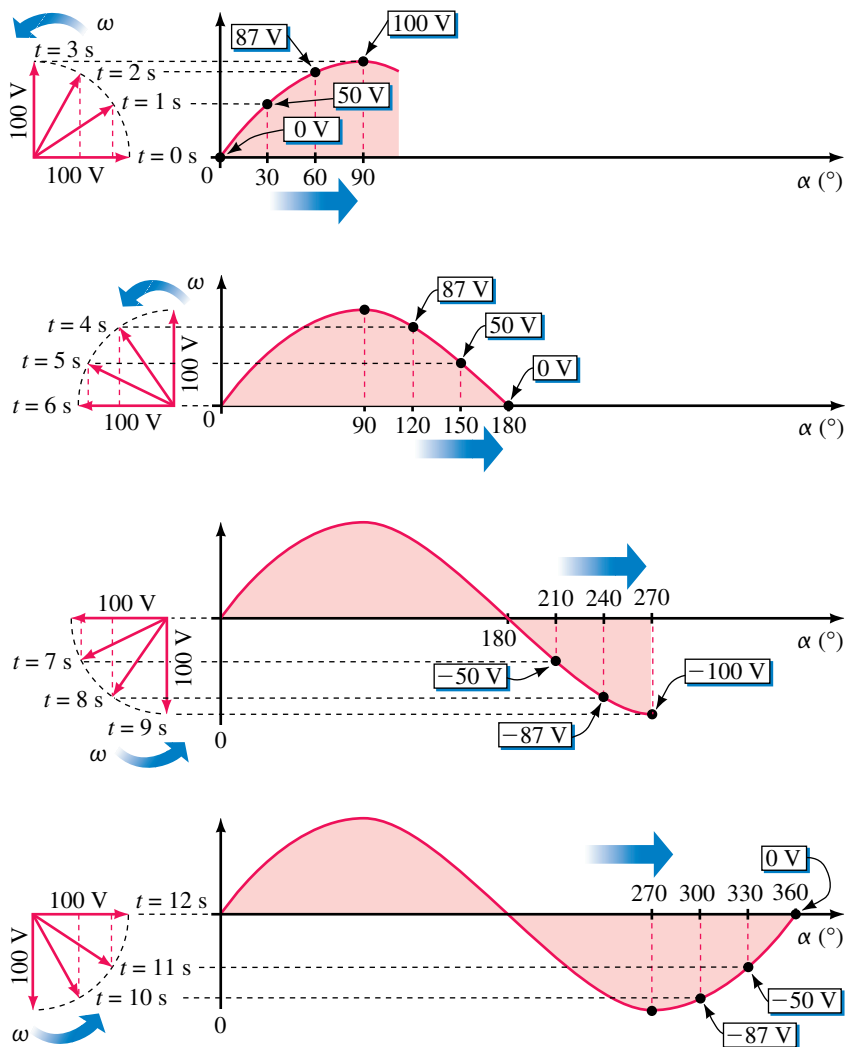

FIGURE 15–35 Evolution of the sine wave of Figure 15–34.
If you plot a graph of v versus α , you get the sine wave of Figure 15–34(b). Figure 15–35 illustrates the process. It shows snapshots of the phasor and the evolving waveform at various instants of time for a phasor of magnitude $V_m = 100$ V rotating at $\omega = 30^\circ/\text{s}$. For example, consider $t = 0, 1, 2,$ and 3 s:
1. Although we have indicated phasor rotation in Figure 15–35 by a series of “snapshots,” this is too cumbersome; in practice, we show only the phasor at its $t = 0$ s (reference) position and imply rotation rather than show it explicitly.